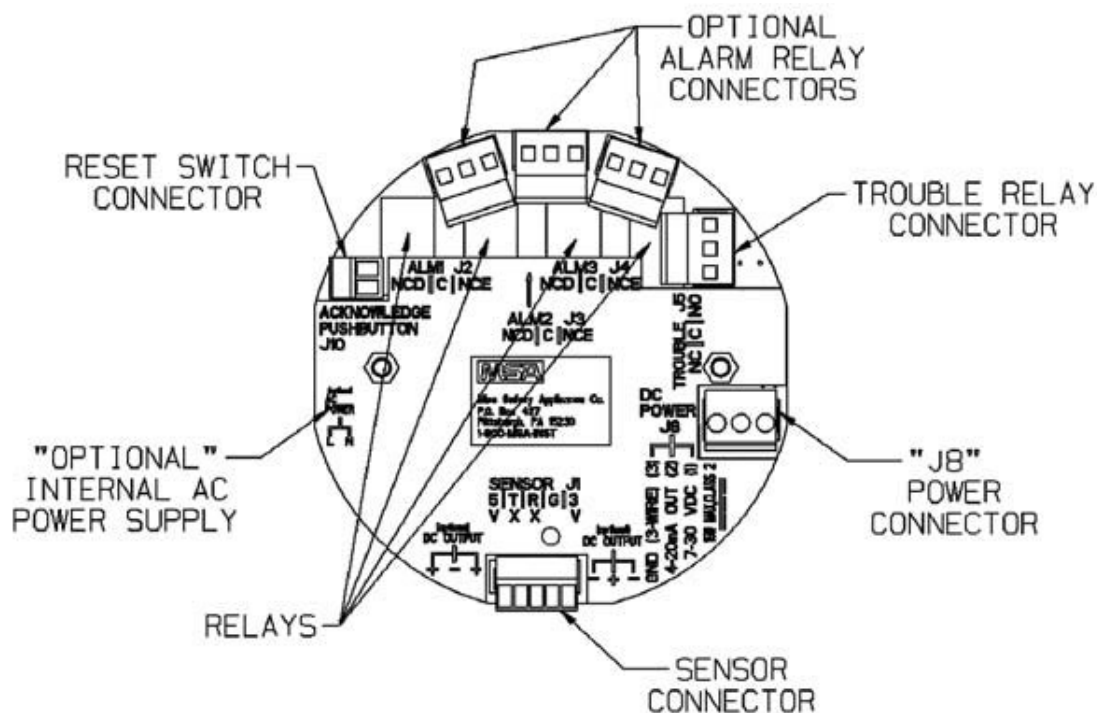

Fig. 18 Three-Wire Printed Circuit Board (no HART Protocol)
- (1) Connect 8-30 VDC power lead to J8-1 (see Fig. 18)
- (2) Connect J8-2 to the 4-20 mA output on the remote system.
- (3) For three-wire operation, connect the signal ground to J8-3.
- (4) Connect the sensor module to main pc board connector J-1.
- (5) Wire for optional relays, if applicable (see 6 "Appendix A, Optional Features").
- (6) Assemble lid on the enclosure.